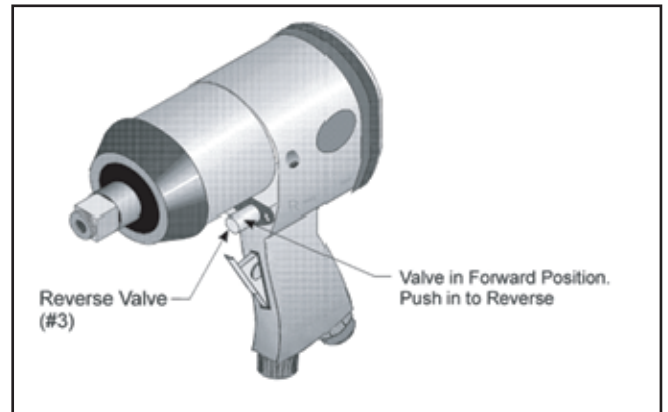

Figure 9- Selecting Reverse Direction
- +! Select the direction of the Wrench (forward or reverse) by pushing the Reverse Valve (#3) located on the handle of the Impact Wrench as shown in Figure 9.